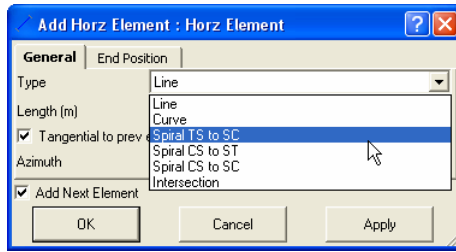

Figure 9-49. Select Spiral Direction
- To add a spiral, click **Add Horz Element** and select the direction of the spiral in the *Type* field drop-down entry box of the **Add Horz Element** dialog box (Figure 9-49 on page 9-36).